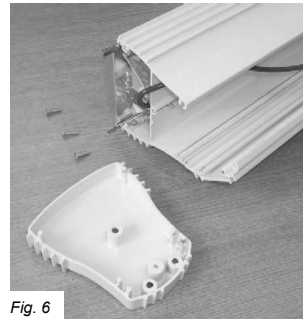

Fig. 6
7. Starting at the left hand side, remove the end casing - this may require a few gentle taps to disengage the locating lugs and allow the casing to become free. The back plate will also now be free from its fixings (Fig 6).